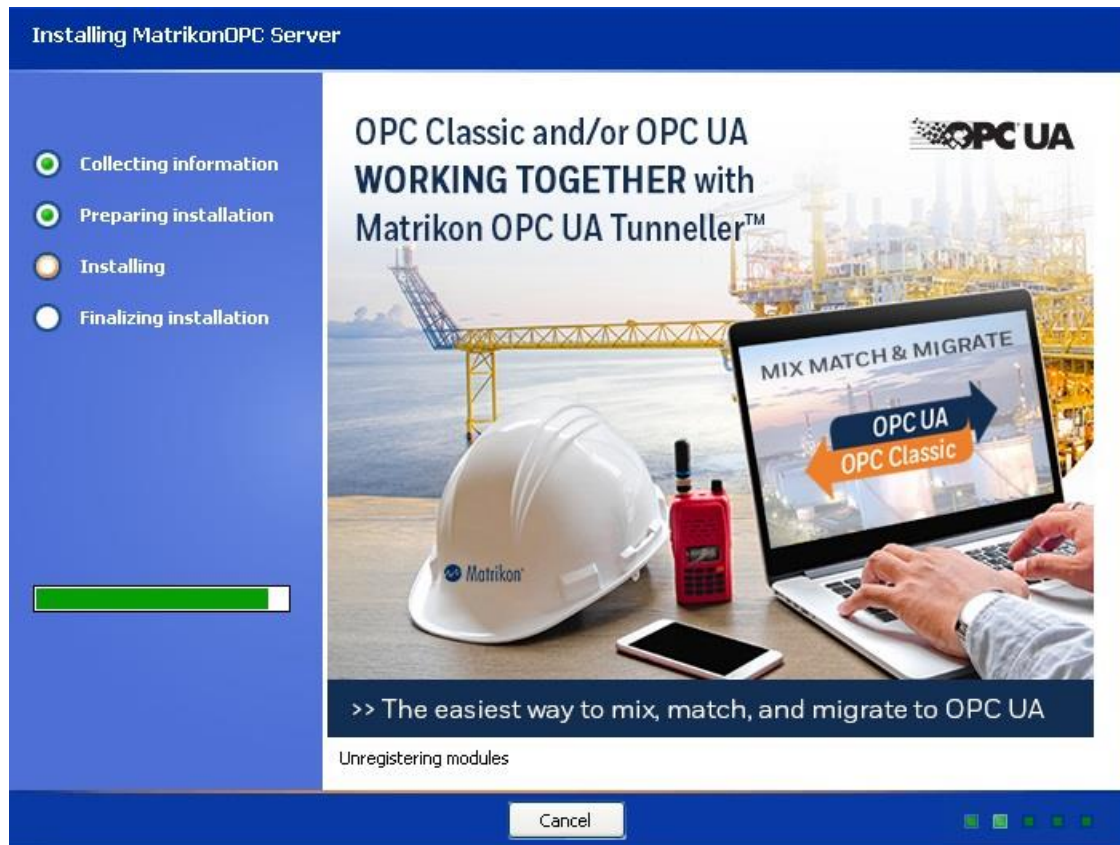

Figure 92 - Uninstalling MatrikonOPC Server for GDA Screen
10. The **Uninstalling MatrikonOPC Server for GDA** screen (Figure 92) appears and the uninstall takes place.